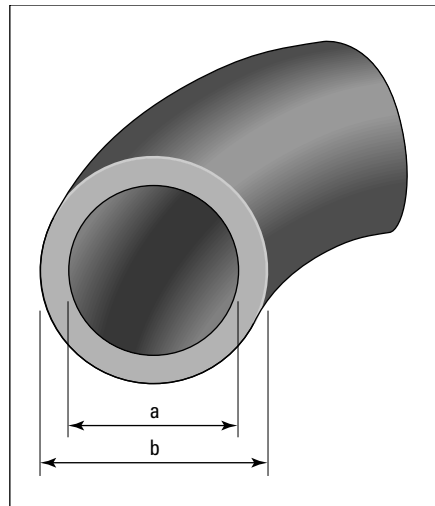

Figure 12-6: How to measure the inside (a) and the outside (b) diameters of a hose.
- **The diameter, color, and length of the hose:** Most hoses are sold by their *inside* diameter (see Figure 12-6), so you may have to disconnect one end of the hose, measure the inside diameter, and reconnect it if you're going to drive to the store.